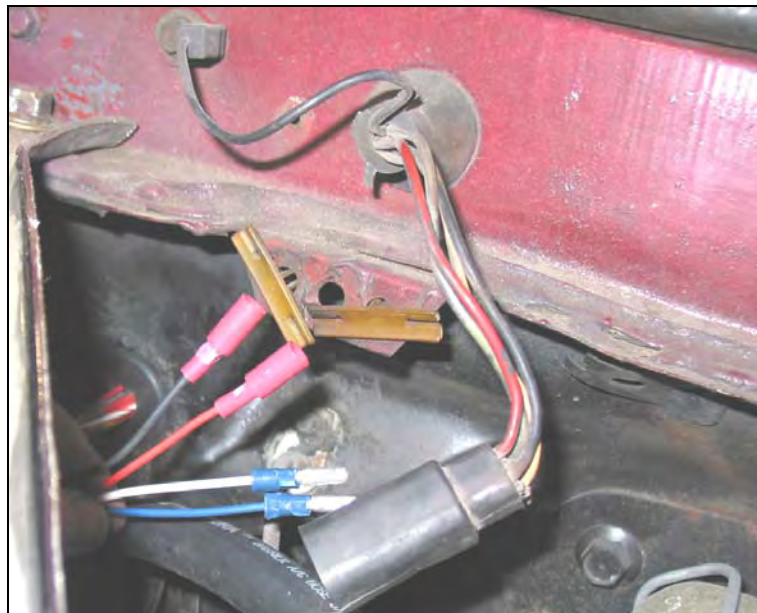

Figure 7-23 Wiper Motor Terminals and Connector
- 7.12.2 Locate the 4 wiper motor wires in the ENGINE SECTION. Using male and female bullet terminals connect these 4 wires to the factory lead coming through the wiper cowl. Terminals were left off and extra length was given to these wires to allow the customer the option of running the wires through the wiper cowl to the motor for a cleaner install. Match the new wires of the Painless harness to the factory colors. **See Figure 7-23**